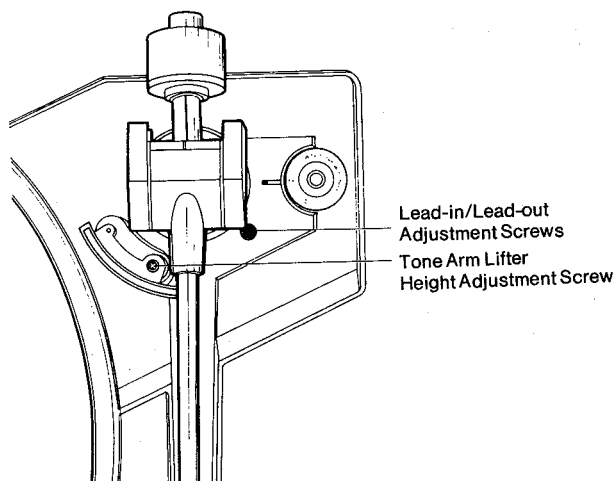

Fig. 7
3. LEAD-IN/LEAD-OUT ADJUSTMENTS (Fig. 7)